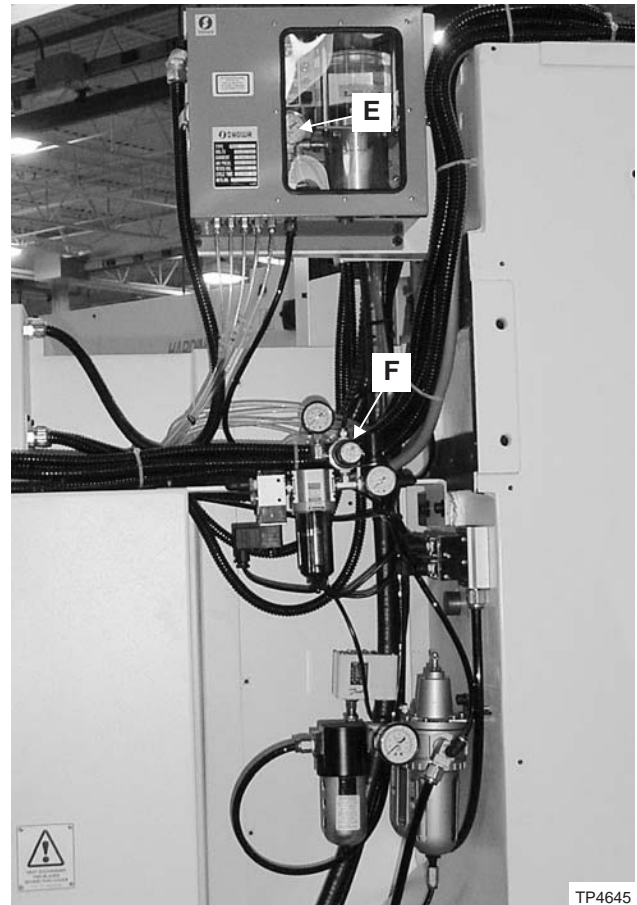

Figure 1.4 - High-Performance Spindle Lubrication System - Air and Lubricator
If the machine is a high-performance high-speed machine, make certain that the Labyrinth air seal air pressure “F”, Figure 1.4, is left ON for 15 minutes after the spindle has stopped to allow the spindle interior to cool to room temperature without drawing in coolant and contaminants.
High Speed machining centers equipped with a 12,000 RPM spindle are available with either grease lubrication or oil-air lubricator "E", Figure 1.4.
1. On machining centers equipped with oil/air spindle lubrication, make certain that oil-air lubricator "E", Figure 1.4, is ON. Allow 5 minutes BEFORE proceeding to step 2.